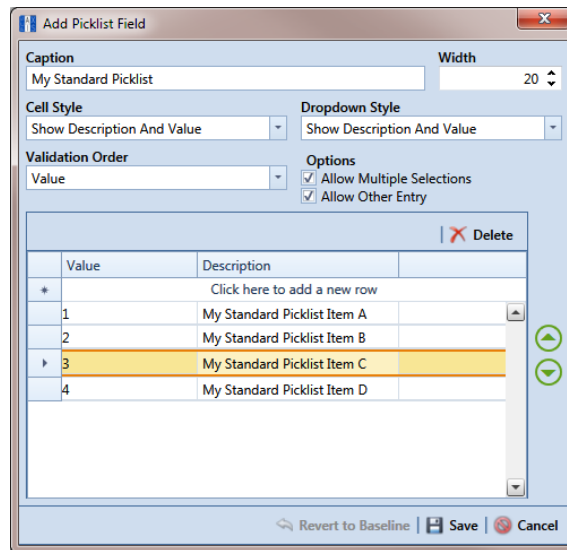

Figure 3-44. Add Picklist Field
- 6 When the *Add Picklist Field* dialog box opens, type a unique name for the UDF in the **Caption** field (Figure 3-44, page 88).
- a** Click the message **Click here to add new row** to add an empty row of fields for data entry (Figure 3-44, page 88).